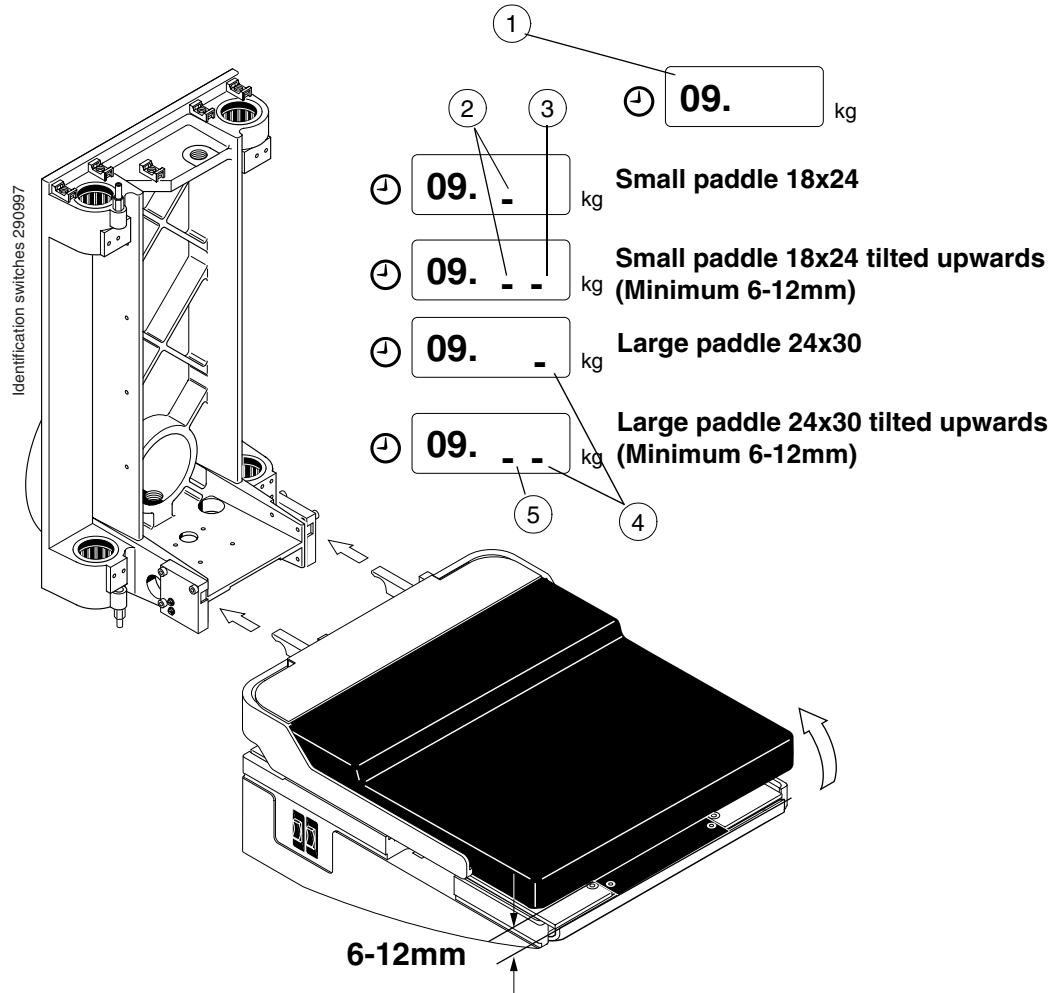

Figure F.41
- Enter the service mode and select the display of internal signals mode 09, see "SERVICE MODE FUNCTIONS SHORT-FORM" on page C-4. (Fig. F.41, 1).
- Push the small lower compression paddle to the paddle holders and check that the left lower signal on the display lights (Fig. F.41, 2).
- Tilt the lower compression paddle upwards and check that the right lower signal (Fig. F.41, 3) lights when the lower edge of the compression paddle is 6-12 mm from the cassette table top cover.
- Perform the same checking with the large lower compression paddle (Fig. F.41, 4 and 5) and the small and large bucky grids. Note, that when there is no paddle inserted, no display light is on.